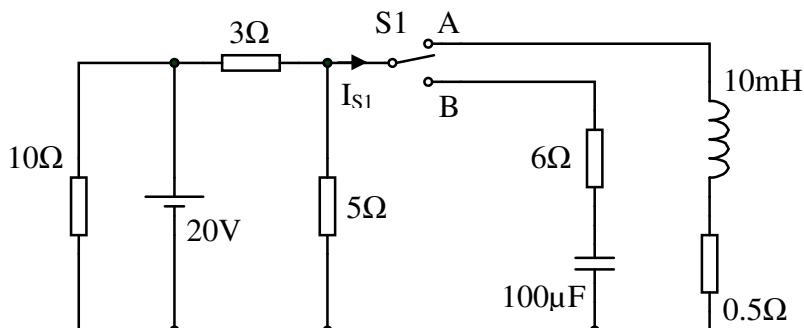

Figure 2.1
- a. The network shown below in Figure 2.1 is initially in steady-state with the switch S1 connected to position A, and the capacitor is fully discharged. At a given time, the switch is commutated to position B and allowed to return to steady state.
- (i) Calculate the values of current, I_{S1} , immediately before the commutation of the switch, immediately after the commutation of the switch, and in position B at steady state. (6)
- (ii) For each of the steady-state switch positions, calculate the total energy stored in the capacitor and in the inductor. (4)
- (iii) Considering your answers to parts (i) and (ii), are there any practical implications to the sudden commutation from A to B in this network? (2)
- (iv) For each of the steady-state switch positions, calculate the total power dissipated in the circuit, assuming ideal reactive components. (2)
- (v) By inspection (or otherwise) derive a simplified RC circuit from Figure 2.1 when the switch S1 is in position B, and thereby calculate the time-constant of the circuit when in position B.